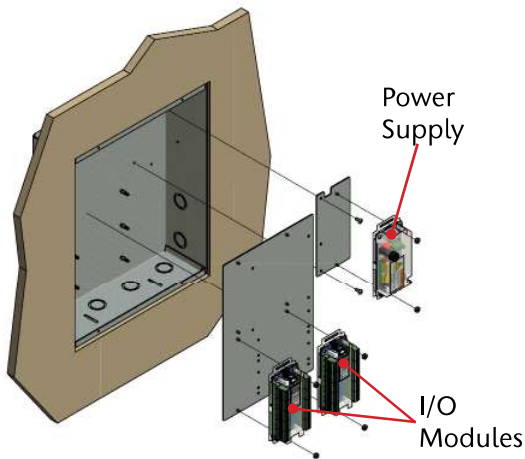

Figure 218: TotalAlert Infinity™ Adapter Bracket Mounting Single
8. Mount new power supply adapter bracket (small bracket included with kit 4107220616) reusing the hardware and location from the old power supply (Figure 218).
1. Mount the new Power Supply (B05) to the adapter bracket using the nuts provided (Figures 218 - 221).